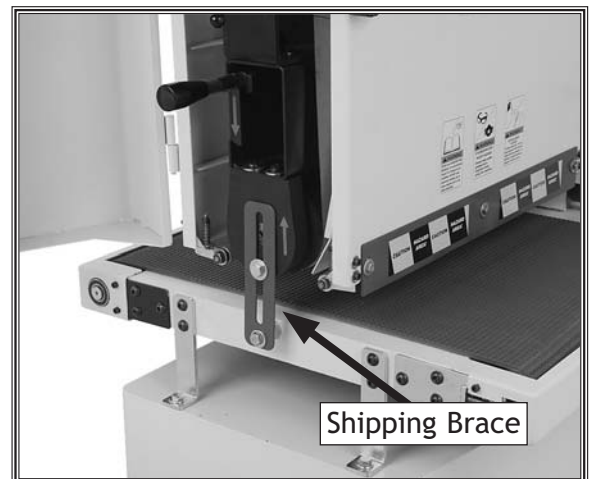

Figure 11. Shipping brace.
8. Open the sanding belt access door on the left side of the machine, and remove the red shipping brace securing the sanding drum to the conveyor assembly (see Figure 11).